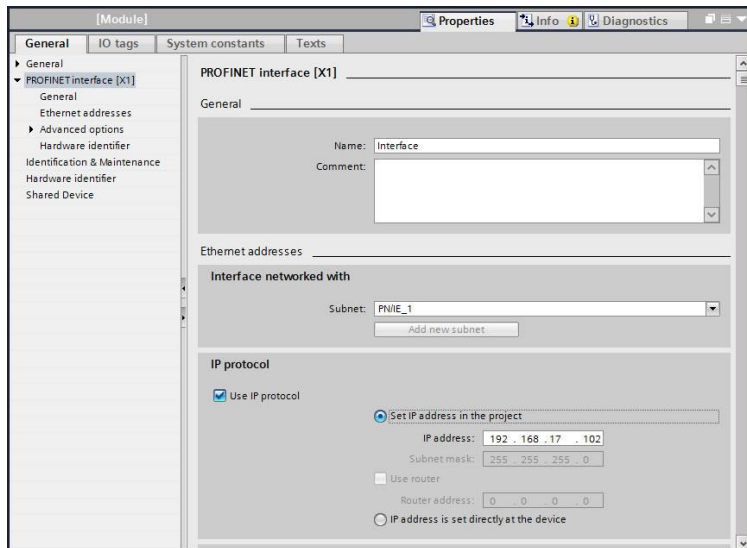

Figure 70: Assign Unique Compatible IP Address
1. Select the device and navigate to the **Properties** tab. Select the **PROFINET interface [X1]** node. Assign a unique and compatible **IP address** for this device as shown in Figure 70.